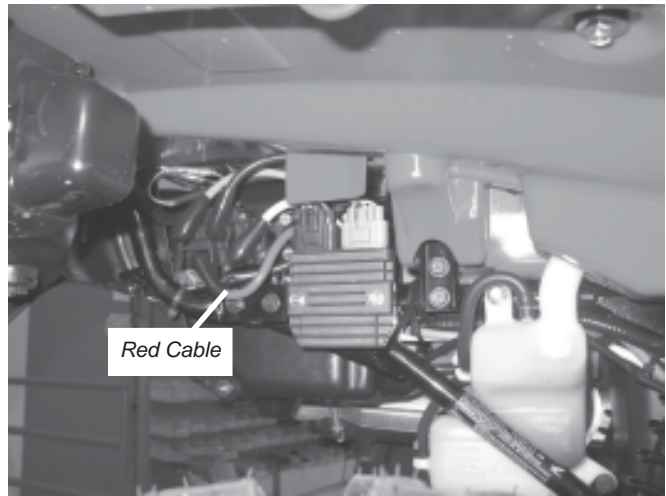

Figure 15 Contactor Location - Right Side of Tool Box
- e. Position the contactor with the post for the positive battery cable (red cable) in the lower left corner (leads for the handlebar switch are positioned up), figure 15 & 16. Mark and drill 1/4" holes for contactor. Secure the contactor with four M6 bolts, washers, lock-washers and nuts supplied with the winch. Tighten the nuts to a recommended torque of 7 N-m (5 ft-lb).